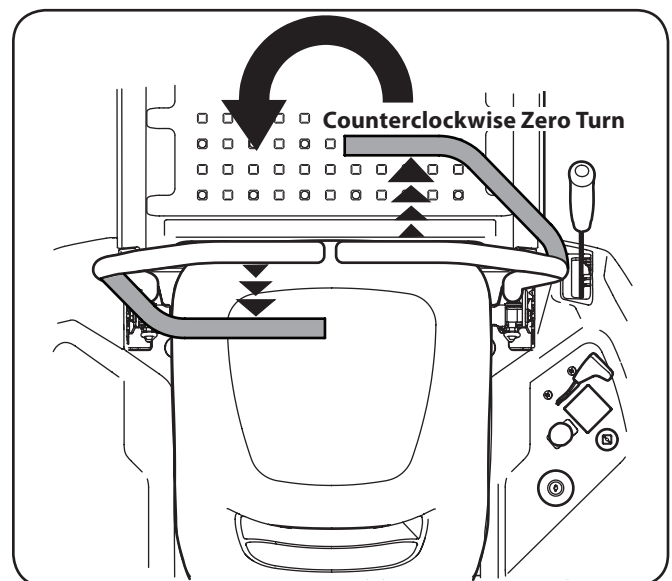

Figure 5-10
3. To turn counterclockwise, move the right control lever forward while simultaneously moving the left control lever rearward. See Fig. 5-10.